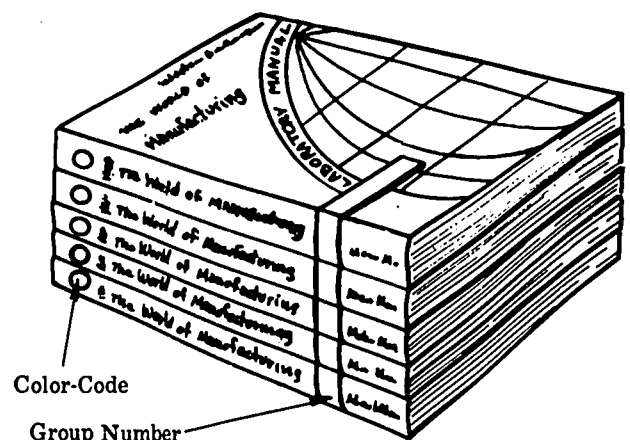

Fig. 3-1. Code for Laboratory Manuals
7. Explain to the foremen how to number the Laboratory Manuals and how to place the $\frac{1}{8}$ " wide class color-code stripe under the group number. See Fig. 3-1. Be sure